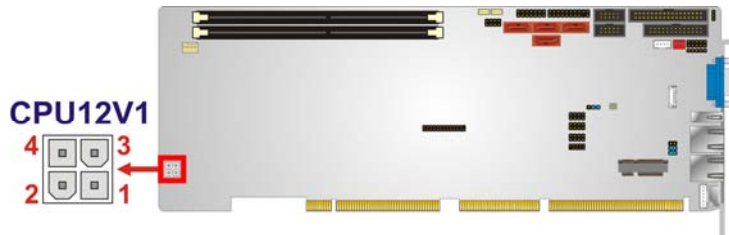

Figure 3-5: ATX Power Connector Pinout Location
- CN Location:** See **Figure 3-5**